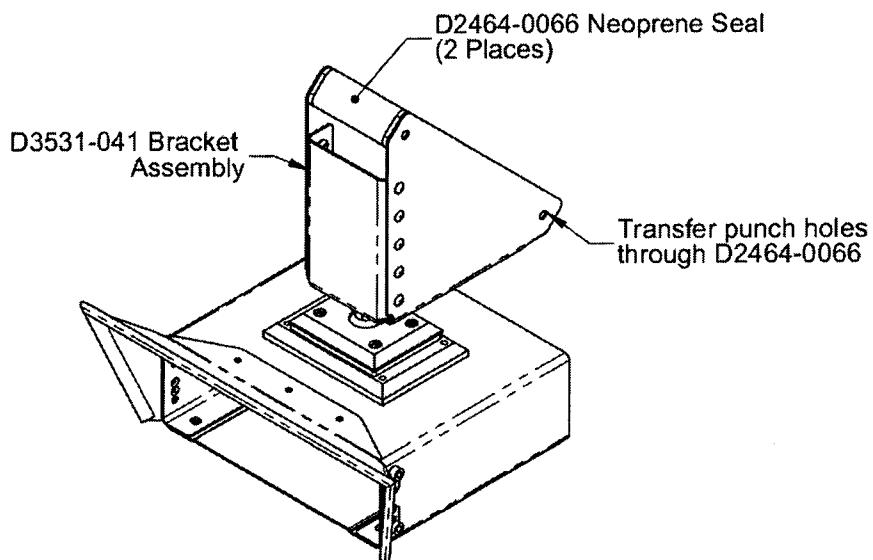

Figure 3.3.2 – D2464-0066 Neoprene Seal Installation
3.3.3 Align the qty(2) D2464-0066 Neoprene Seals flush with the edges of the D3531-041 Bracket Assembly as shown in **Figure 3.3.2**. Transfer punch the qty(4) #11 (\varnothing 0.191") holes drilled in the D3531-041 Bracket Assembly through the D2464-0066 Neoprene Seal. Remove the adhesive backing from the neoprene part and apply the neoprene to the D3531-041 Bracket Assembly as shown in **Figure 3.3.2**.